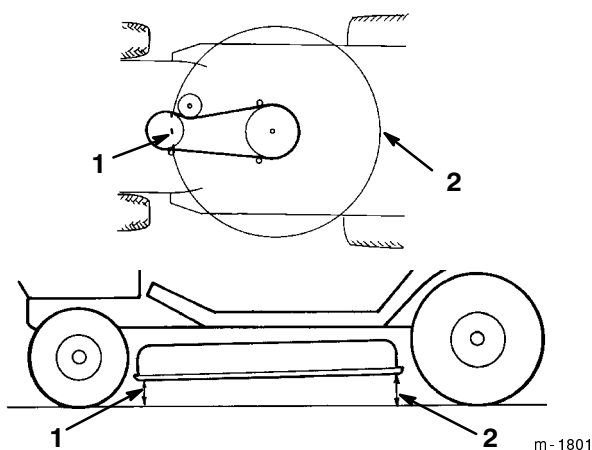

Figure 50
5. Check the front-to-rear blade slope by measuring between the bottom of the mower (front center and rear center) and the flat surface (Fig. 50). If the front of the mower is more than 5/8" (15.875 mm) lower than the rear of the mower, an adjustment is required; refer to steps 6-10.